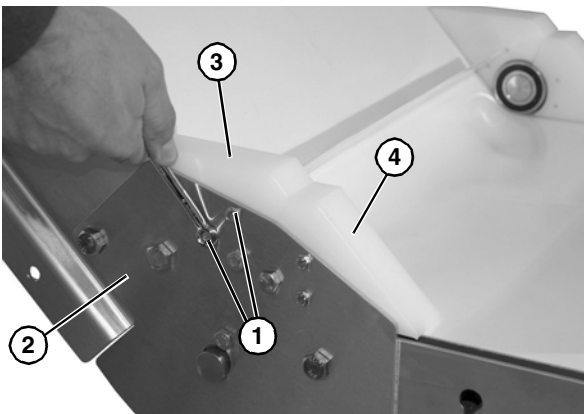

Figure 54
1. Remove two cap screws (Figure 54, item 1) on side of lower knuckle assembly (Figure 54, item 2), and remove hold down guide (Figure 54, item 3). Repeat for second hold down guide (Figure 54, item 4). Repeat on opposite side.